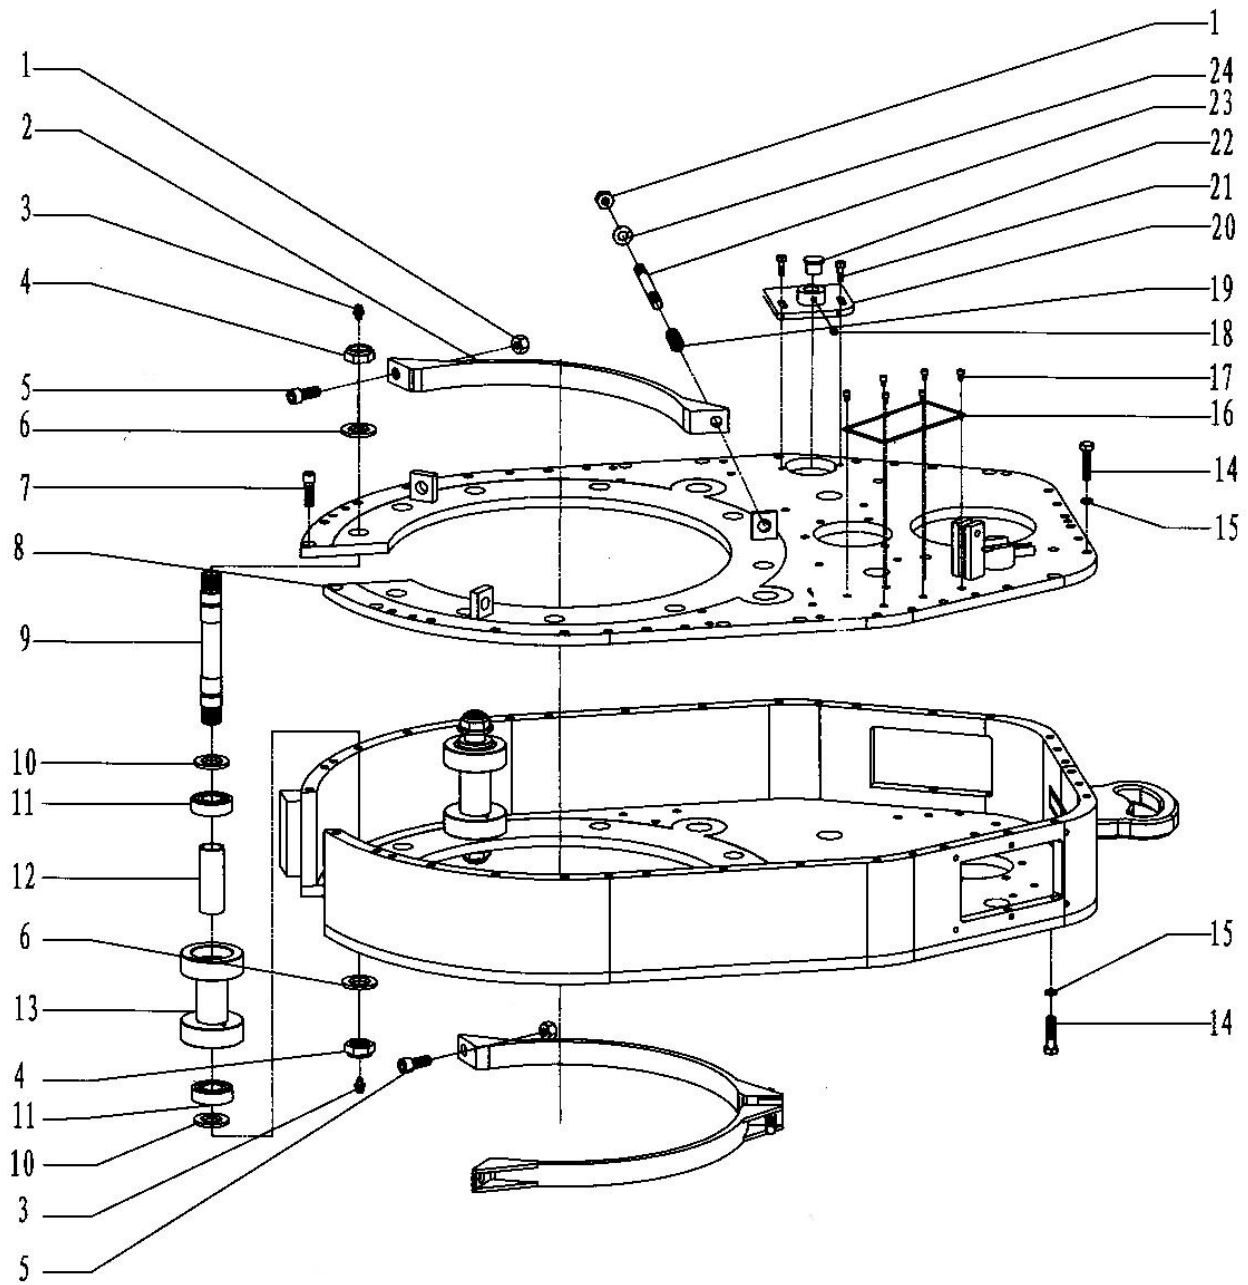

Fig. 7-4
4. Shell and accessories I (Fig 7-4, Table 4)